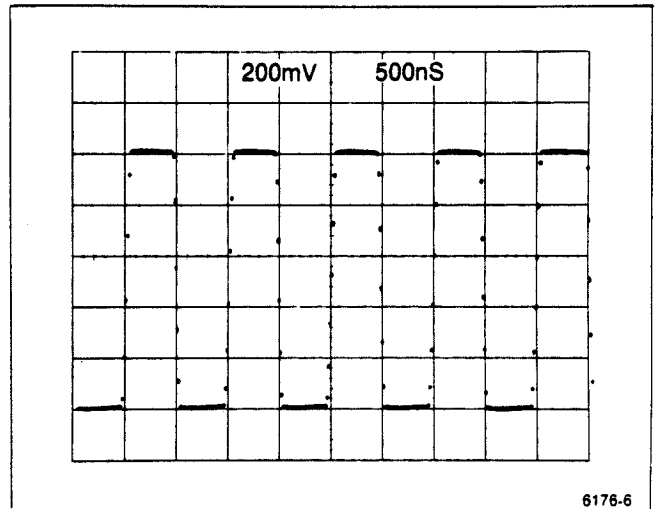

Figure 2-4. Sequential equivalent-time sampling display of 1  $\mu$ s, 1 V square-wave output of pulse generator.
8. Adjust the mainframe Focus and Intensity, and the 7T11A DC Offset controls for a display similar to that shown in Fig. 2-4. Rotate the SCAN control slowly from one extreme to the other and note that clockwise rotation increases the scan rate and reduces the dot density. Return the SCAN control to its midposition. Push in and release the VARIABLE (CAL IN) control and note that the less than symbol (<) is displayed on the CRT just to the left of the 500 ns readout. Rotate the VARIABLE control from its fully CCW position and note that clockwise rotation results in an increasing magnification of the display or a reduction in actual time per division. Return the VARIABLE control to its fully CCW position and push it into the CAL position.